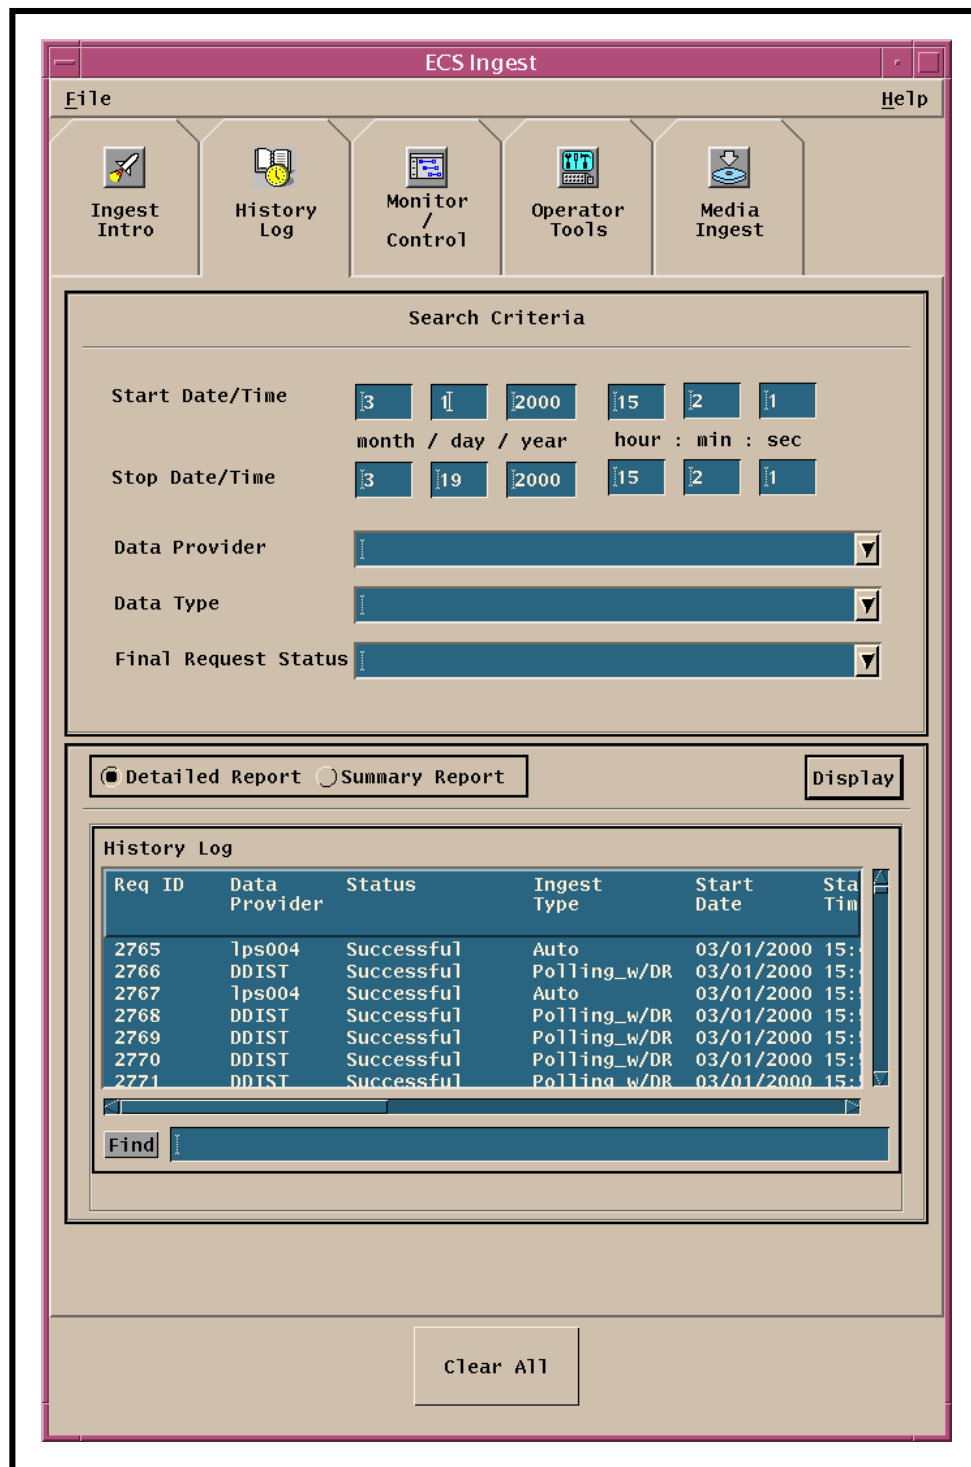

Figure 16. Detailed Report (ECS Ingest GUI History Log)
- The **Detailed Report** (Figure 16) provides the following types of information on each completed ingest request.